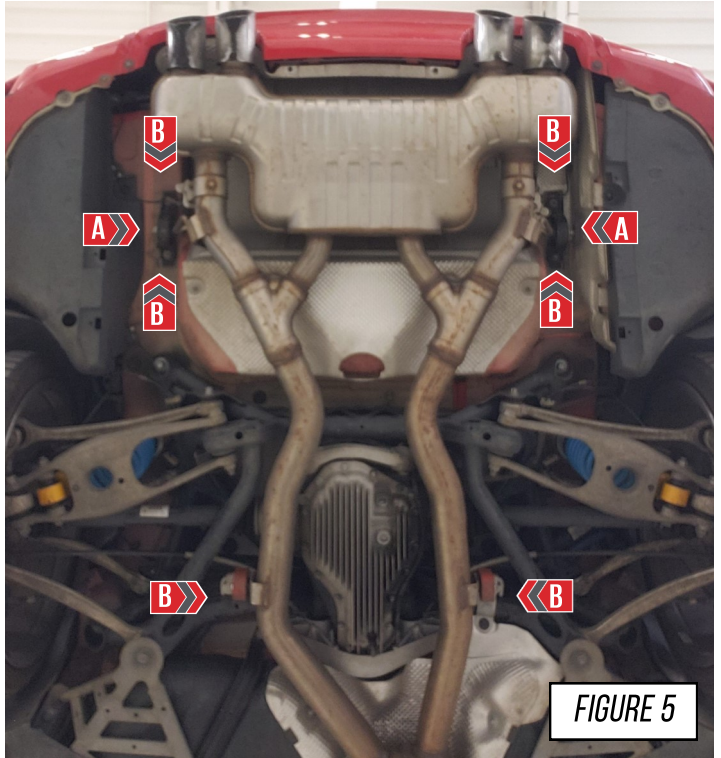

FIGURE 5
Remove the bolts mounting the 4 hangers to the body (B), as shown in **Figure 5**.